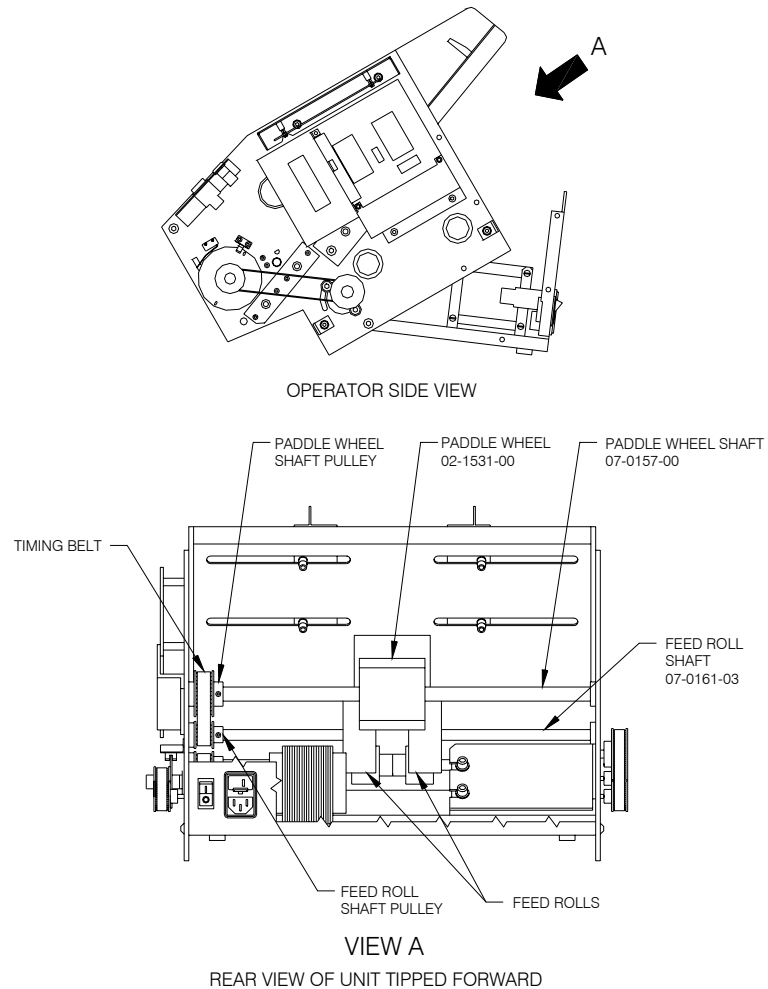

Figure 7.25 -- Inside View of the Base
14. Place the FEED TIMING BELT around the 3 PULLEYS and rotate the FEED MOTOR clockwise until you set the proper belt tension. (Refer to **Figure 7.25.**)